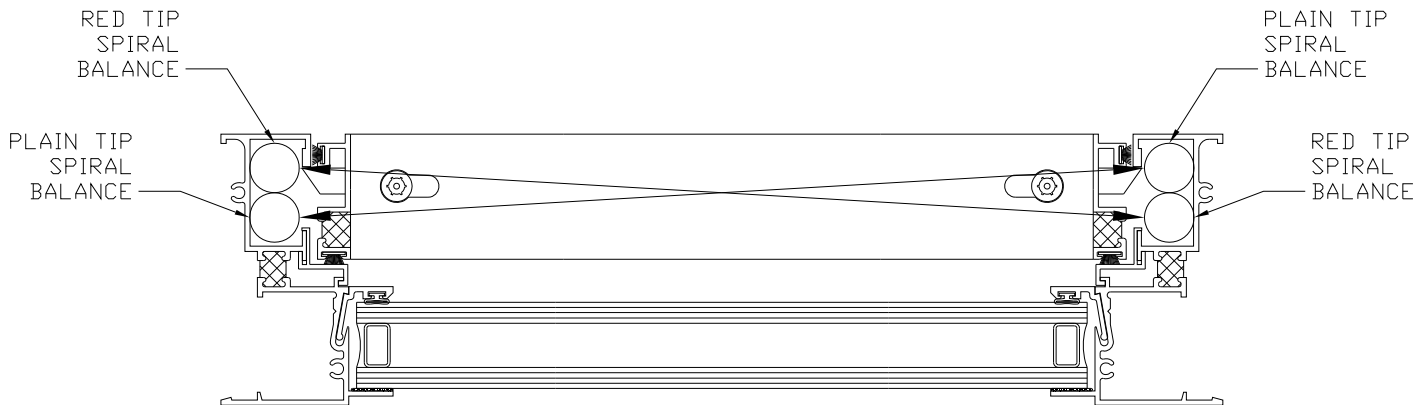

Figure 18-1
1. Dual Balance Installation (Two (2) Balances Per Jamb) – One balance will have a plain tip while the other balance will have a red tip (See Figure 17-1). This type of balance application must be installed in a crossing pattern (See Figure 18-1).
- a. Before tensioning balances, obtain the correct number of tensioning turns from Peerless Products. One (1) turn = One (1) full revolution of spiral.